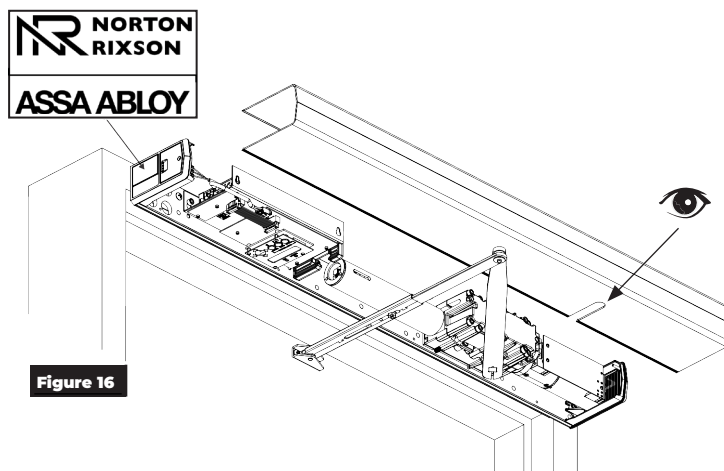

Figure 16
- Align cut-outs in cover to pinion shafts. (Figure 16)
- Attach a label plate to each end cap by snapping into place by hand with gentle pressure. (Figure 16)